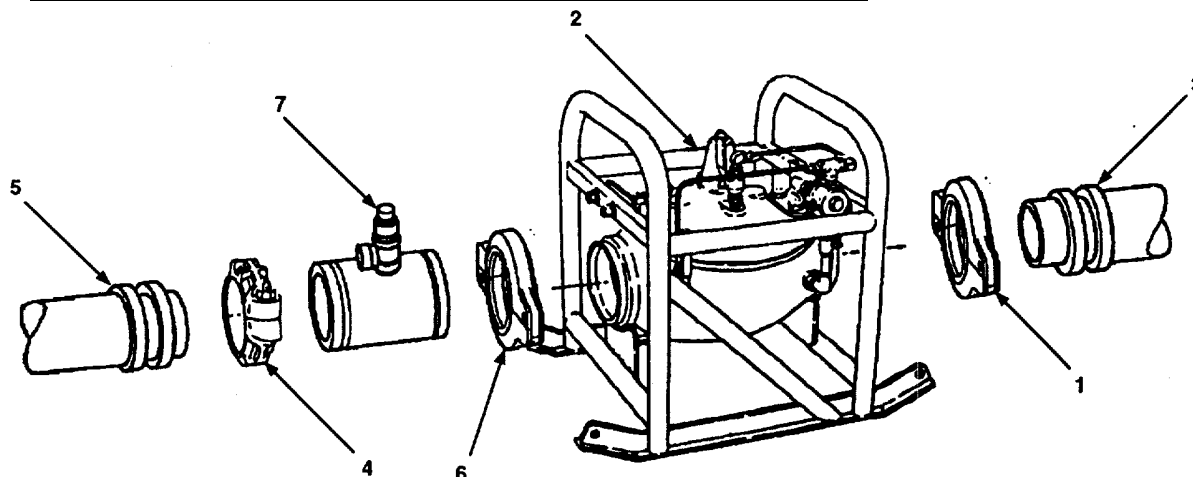

Figure 2-67. Disassembly of Pressure-Reducing Valve Assembly.
- a. Remove grooved-end quick disconnect coupling clamp (Figure 2-67, 1) (para 2.3.3.1) connecting pressure-reducing valve assembly (2) to downline hoseline segment (3).
- b. Install grooved-end quick disconnect coupling clamp (1) (para 2.3.3.2) on end of hoseline segment (3).
- c. Remove grooved-end quick disconnect coupling clamp (4) (para 2.3.3.1) connecting pressure relief valve assembly (7) to upline hoseline segment (5).
- d. Remove grooved-end quick disconnect coupling clamp (6) (para 2.3.3.1) connecting pressure- relief valve assembly (7) to pressure-reducing valve assembly (2).